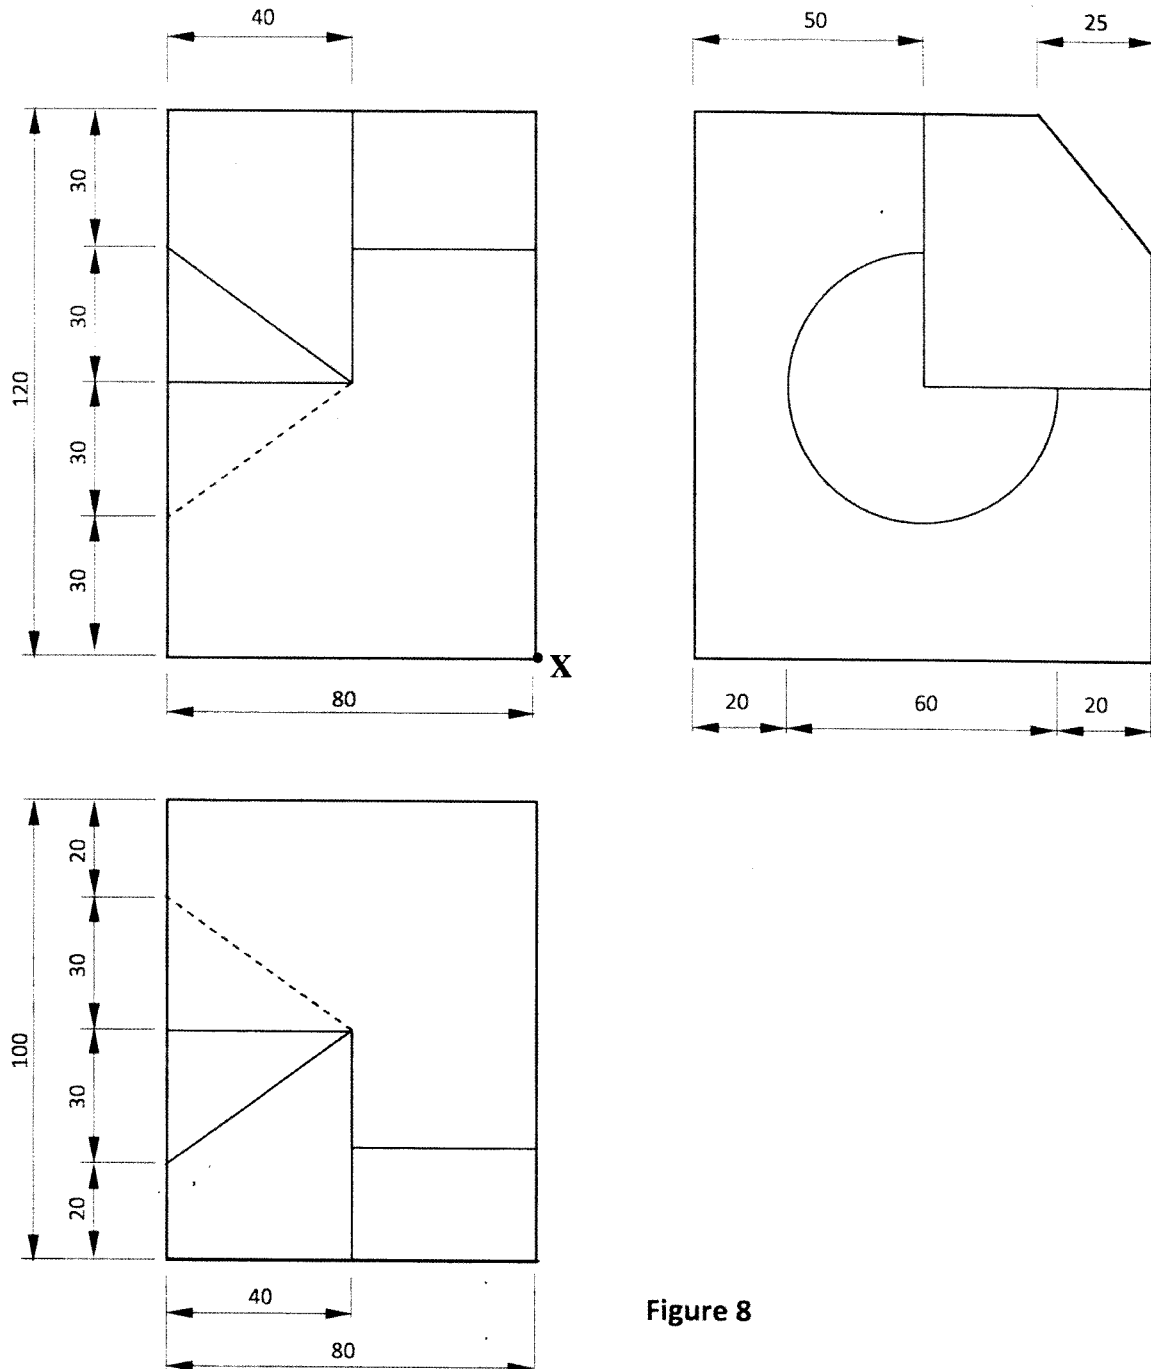

Figure 8
- 12** Figure 8 shows the three orthographic views of a machined block drawn in first angle projection. Draw full size, the isometric view of the block taking corner **X** as the lowest point. (15 marks)